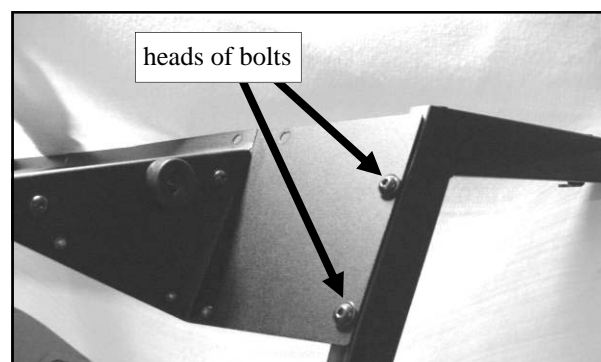

Fig. 7.2 (view from right rear side of tractor)
7.2 Per fig. 7.2, and with assistance, attach the pre-assembled top rear panel to the top rear of the side frames. Use the following hardware per side: two 5/16 x 1" long button head bolts, two steel washers, and two plastic washers. Do not tighten bolts. Repeat on the left side frame (not shown).